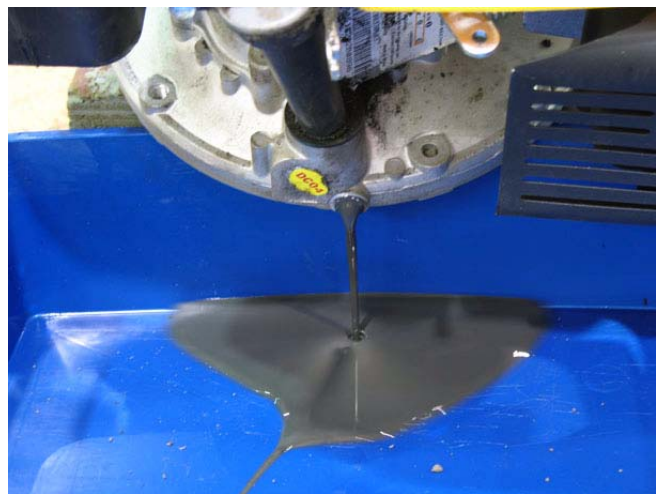

Figure 6.5
7. Abrasive materials that enter the engine get absorbed by the oil and thicken it. See Figure 6.5.